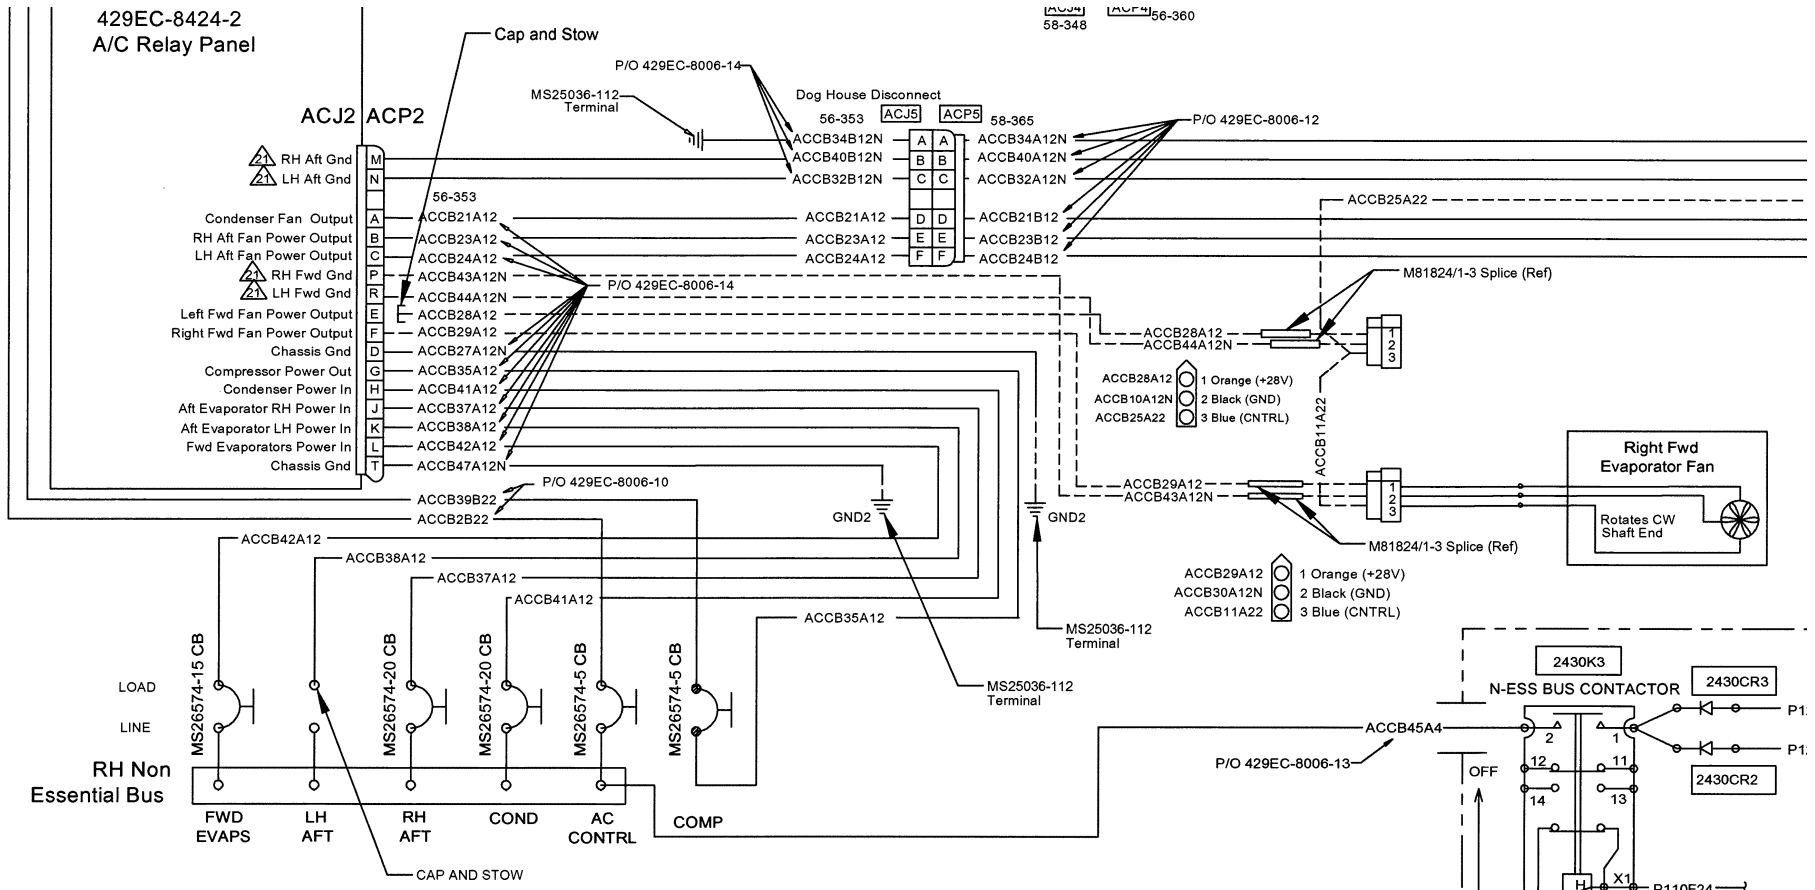

Figure 17: Converted Single Evaporator Electrical Wiring Schematic (From Drawing 429EC-812-1)
4. Cap and stow wire ACCB38A12. See Figure 17.
6. Cap and stow wire ACCB28A12 at ACP2, Pin E. See Figure 17.
9. Replace ACP2 Cannon Plug with D38999/26WJ19SN Relay Panel Cannon Plug and M85049/43-24W Backshell (Alt: 620HB047B25 or 627H122XW25), see Figure 17.
11. Install new left and right forward evaporator ground return leads ACCB43A12N and ACCB44A12N, using the supplied 12 ga marked wire. Use the supplied M81824/1-3 Splices and connect to existing ground wires from Molex connectors. See Figure 17.
13. Install new left and right aft evaporator ground return leads ACCB32B12N and ACCB40B12N. Use 4x M39029/56-353 Pins at ACJ5 and ACP2 Cannon Plug. See Figure 17.